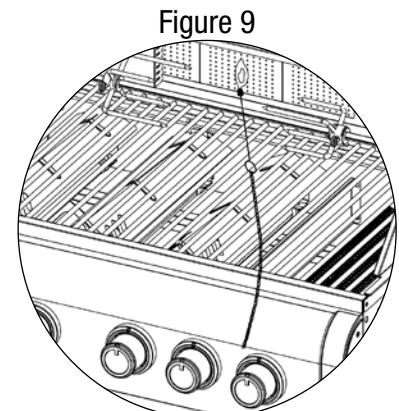

Figure 9
8. If igniter does not light burner, use a lit match secured with the lighting rod provided to light burner manually. Position the lit match near side of the burner (Figure 9).